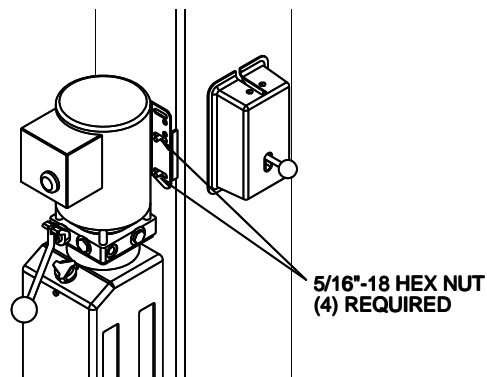

**Fig 6 – Cable Assembly**
- Attach one end of synchronizing cable to carriage. See **Fig 6** for proper attachment.
- Route cable up and over sheave in overhead. Follow across to other sheave on opposite column. Route down through carriage to sheave in bottom of column. Route under sheave and up to cable attachment. Use **Fig 6** for proper attachment.